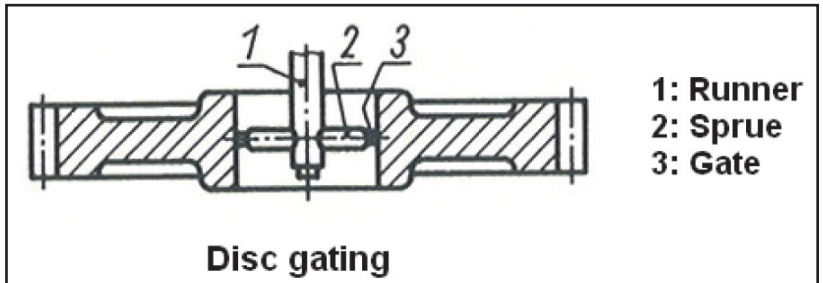

Figure 2 Gating location (Ref. 11).
**Molding conditions.** In this study a disc gating solution (Fig. 2) is used that has the best filling and fiber orientation regularity (Ref. 11).